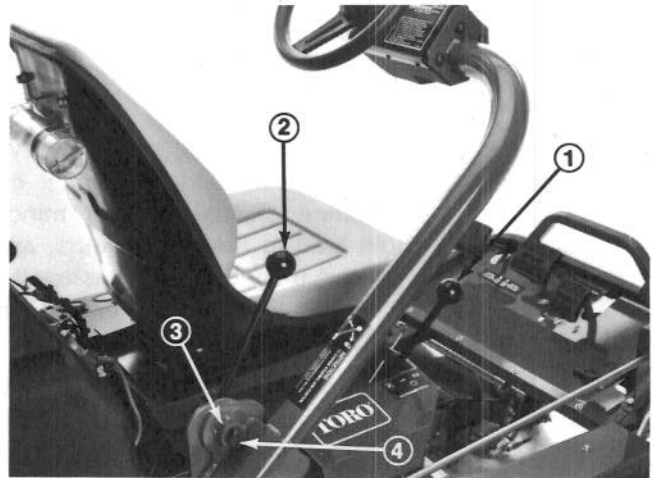

Figure 15
SHIFT SELECTOR (Fig.15) – Located on the top of the right hand panel. Provides two (2) traction selections, plus a "NEUTRAL" position. It is permissible to shift from one selection to another while the Greensmaster 3100 is in motion. No damage will result.
STEERING ARM LOCKING LEVER (Fig.15) – Rotate lever rearward to loosen adjustment, raise or lower steering arm for operator comfort, then, forward to tighten adjustment.